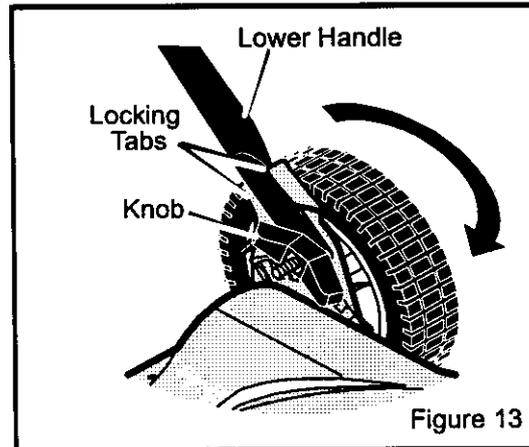

Figure 13
2. Loosen the knobs on the lower handle (Figure 13). Push in on the ends of the **lower handle**. Move the ends of the **lower handle** past the **locking tabs**.